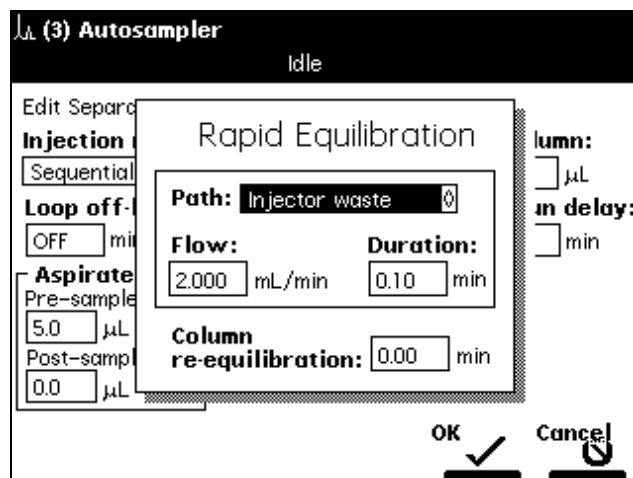

Figure 5-12 Rapid Equilibration Dialog Box
- Press the **Rapid Equil** screen key in the Autosampler screen. The Rapid Equilibration dialog box appears (Figure 5-12).